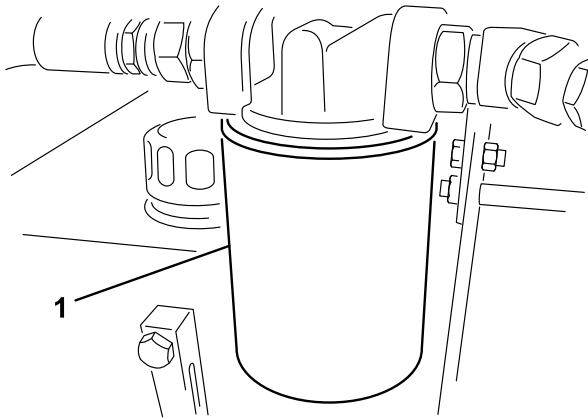

Figure 16
3. Place a drain pan under the filter and remove the filter (Figure 16).